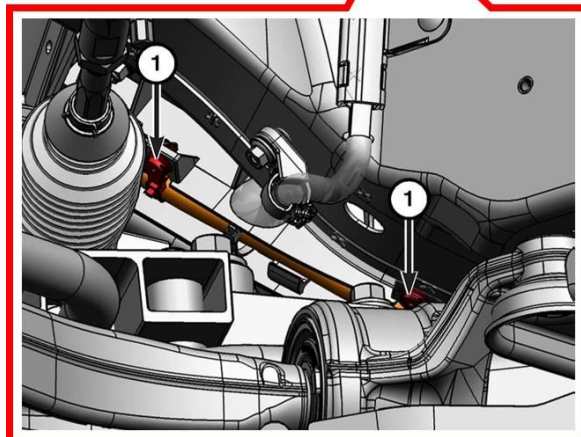

Figure 32 – 12-Volt Cable
16. Working through the wheel opening, release the clips (1) securing the 12-volt cable to the high voltage cable carrier (Figure 32).
33. Working through the wheel opening, attach the clips (1) securing the 12-volt cable to the high voltage cable carrier (Figure 32).